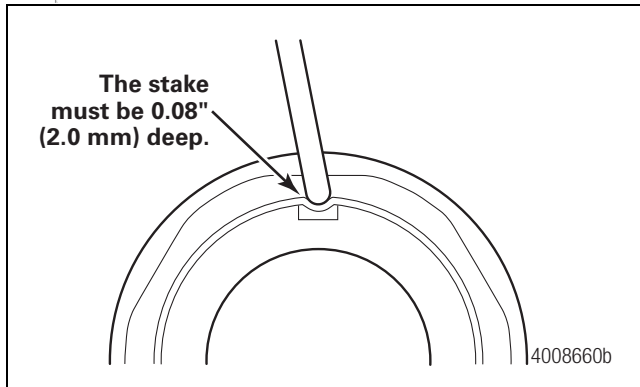

Figure 12.13
- E. Stake the nut by deforming the flange into the channel on the spindle at two locations 180 degrees apart. The stake must be 0.08-inch (2.0 mm) deep. Figure 12.13.